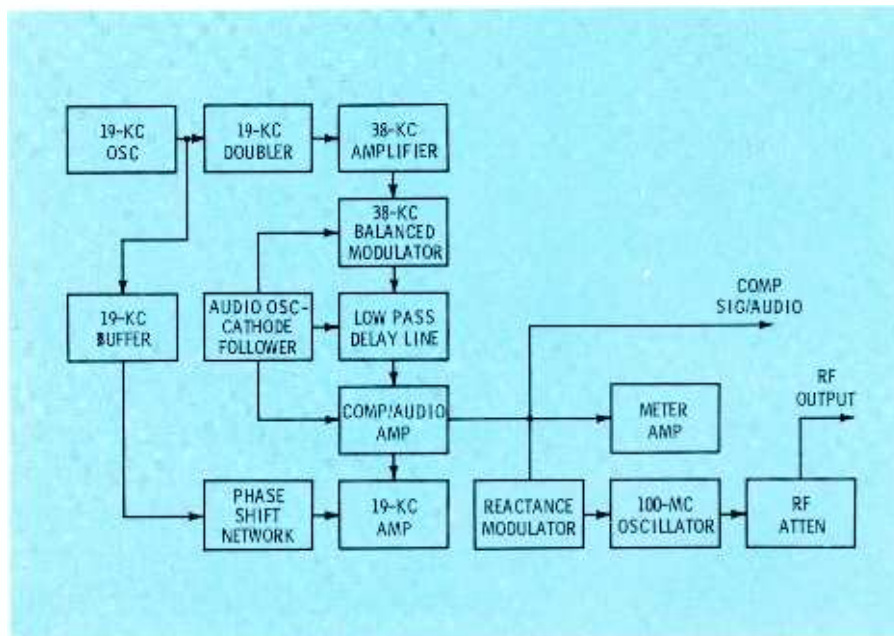

Fig. 2. Block diagram of generator circuitry.
**COMP SIG/AUDIO cable:** Provides a composite signal when the FUNCTION switch is set to either of the stereo positions. Provides a sine-wave signal when the FUNCTION switch is set to the AUDIO/MONO position. Sine-wave frequencies available are 400 cps, 1000 cps, 5kc, 19kc, 38kc, 67kc, and 72kc. The 19-kc and 38-kc signals are crystal controlled. A block diagram of the generator circuitry appears in Fig. 2.